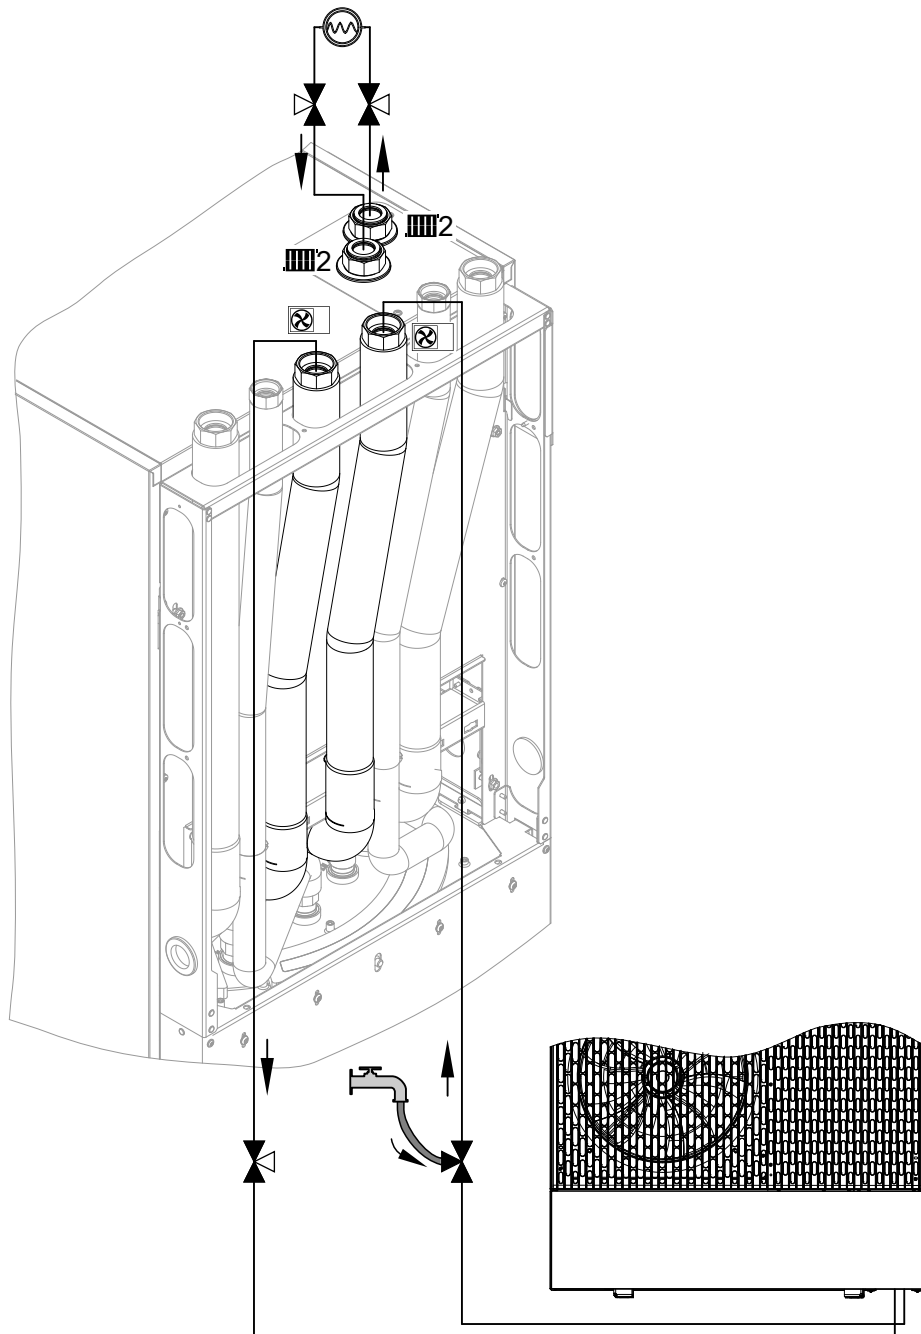

Fig. 76
Open both 3-way ball valves to and from heating/cooling circuit 2: See Fig. 76.
3. Open the 3-way ball valve from the outdoor unit flow (indoor unit heating water inlet) as shown in Fig. 76: **Open in all directions**
4. Open the 3-way ball valve to the outdoor unit return (indoor unit heating water outlet): See Fig. 76.